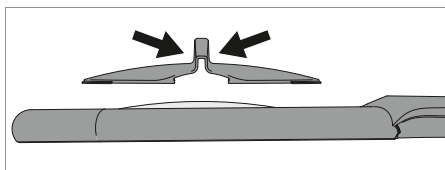

Fig. 2: Mounting the magnifier cover.
- ▶ Compress the upper part of the magnifier cover, see Fig. 2.